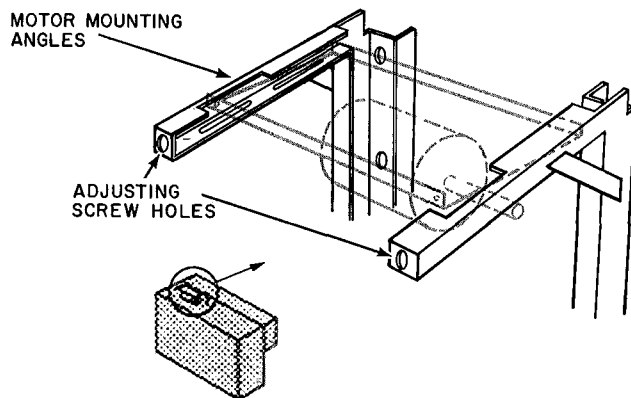

**Fig. 4 – 028 and 034 Horizontal Fan Motor
1. Fasten motor mounting angle bracket to fan section. Use Fig. 2 or 3 for position reference and Fig. 4 for assembly guidance. Be sure that lips of angle brackets are around fan section frame and that slots for motor mounting plate face each other.
3. Lift motor-plate assembly and slide into motor mounting angles as shown in Fig. 4. Plate fits in angle slots. On vertical mounts, the motor mounting assembly can be lowered to bottom of motor support channels.